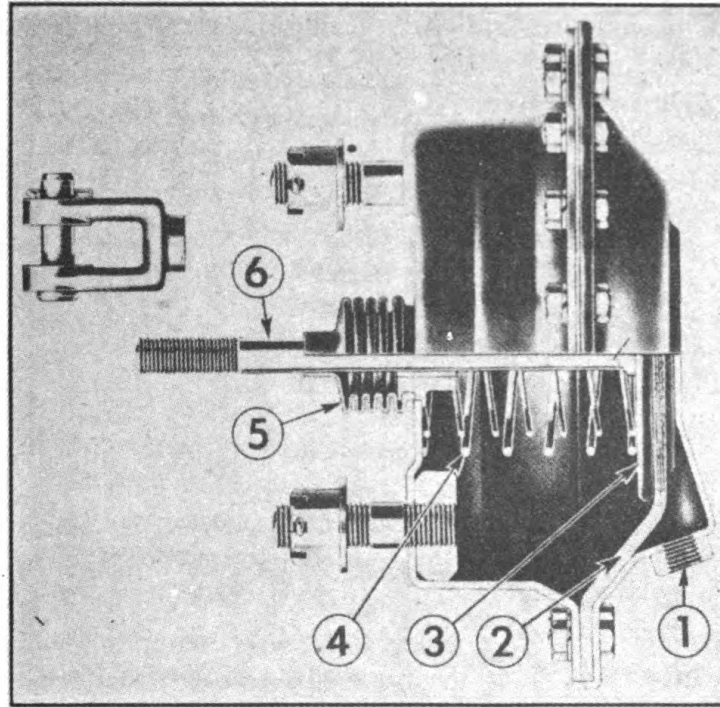

FIGURE 28. BRAKE CHAMBER
11. BRAKE CHAMBERS (Figure 28).—*a.* This trailer is equipped with two brake chambers on front axle. They are interchangeable.
b. Function.—The function of the brake chamber is to convert the energy of compressed air into the mechanical force necessary to expand the brake shoes against the brake drum and apply the brakes. Air pressure from relay emergency valve enters port (1) behind the flexible diaphragm (2). The force developed moves the flexible diaphragm, moves the push plate (3) and attached push rod (6), so as to rotate the brake cam and apply the brakes.
c. Adjustment.—(1) The stroke of the brake chamber push rod is limited, therefore, the brake must be adjusted (see Brake Minor Adjustment) to keep the push rod stroke within the correct limits. The stroke should never be permitted to exceed $1\frac{3}{4}$ " and when the brakes are adjusted, the stroke should be as short as possible without the brakes dragging. This minimum stroke is usually about $\frac{3}{4}$ ".